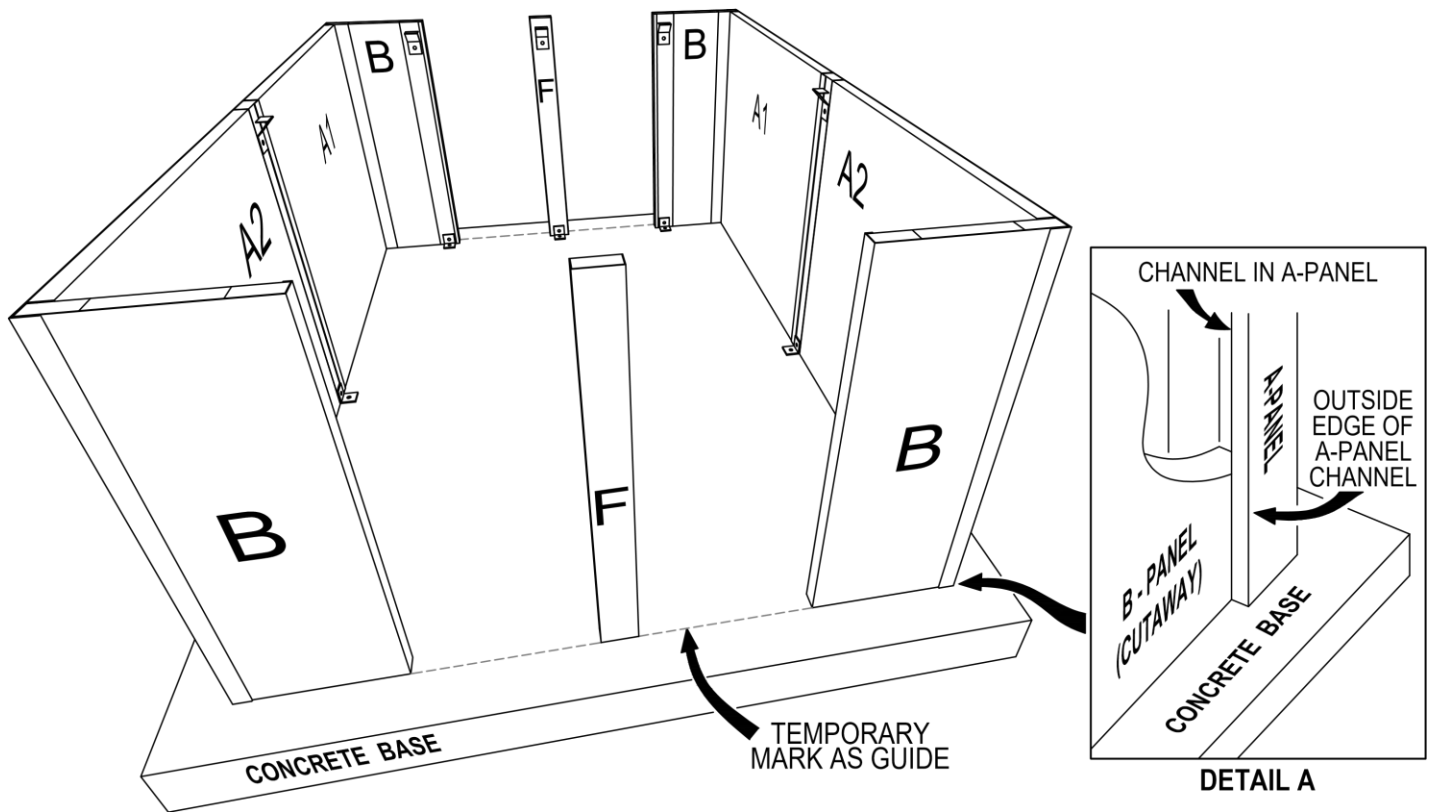

FIG. 1
4. Assemble the “A#-B” (corner) assemblies through the holes provided using Hex Head Screws. (For best results, insert a bead of silicone caulk into the inside bend of the “A#” panel corners.) Set them on the marked concrete base (Fig. 1).